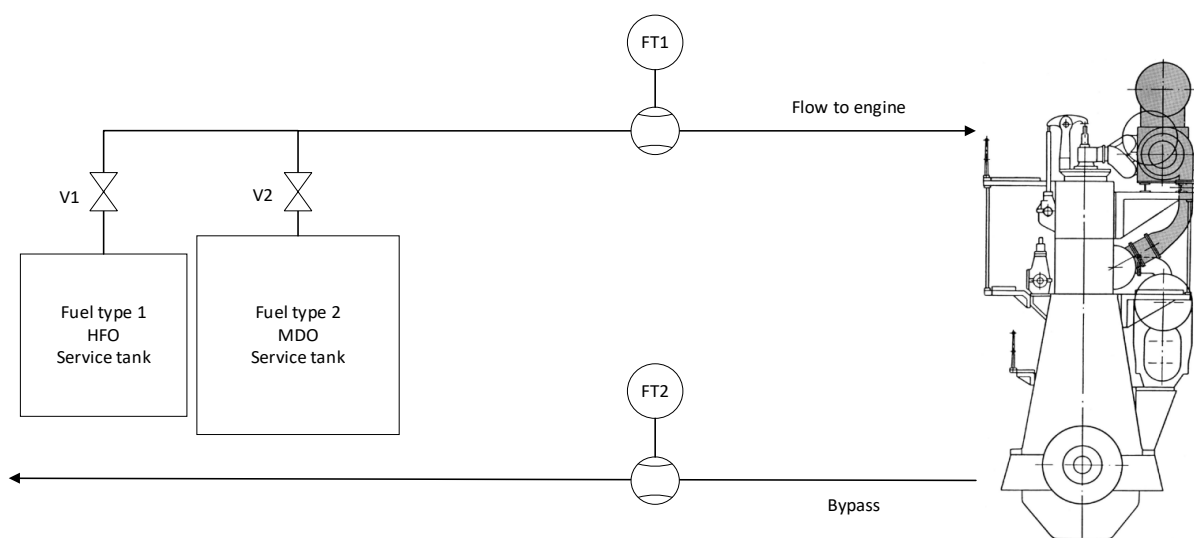

Figure 4-7, Fuel flow scenarios
- Multiple fuel types but only one flow meter:** If there are multiple fuel types but only one mass flow meter to measure the actual fuel flow, then additional logic needs to be implemented by the data integrator in order to differentiate the type of fuel which flows to the engine. In this case the signal from the single fuel flow meter should be correctly mapped to fuel input 1-2-3 depending on additional logic like engine mode (gas mode or oil mode) or the position of relevant valves in the fuel supply system. Looking at Figure 4-7, the case could be that Fuel type 1 is in use, and not Fuel type 2. One should consider which valve the flow passes through to account for the fuel correctly. In this case, Valve 1 is open, and Valve 2 closed. In this example the measured flow value should be mapped to fuel input 1.